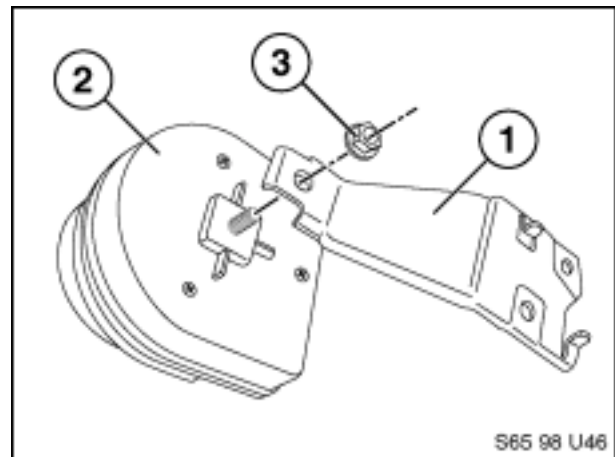

Figure 6
- 1.12 See Figure 6. Assemble alarm siren (2) to mounting bracket (1) using M6 nut w/captive flat washer (3).